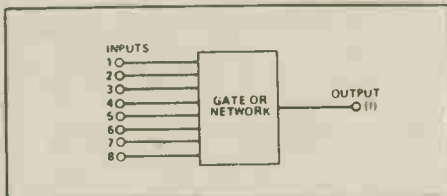

Fig. 1. 256 patterns would be needed to test every input combination.
There are a number of other considerations that have to be kept in mind when devising test procedures, apart from the categorizing of the circuit concerned. Even in simple cases, functional testing may have to be uneconomically elaborate in order to detect all possible faults. The 8-input gate in Fig. 1 would require 256 test patterns if all input conditions were to be covered. Such exhaustive testing (ET) very quickly becomes unwieldy, even with straightforward combinational circuits.